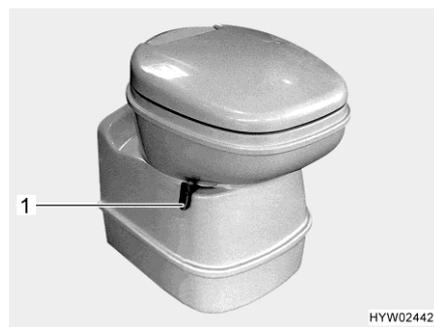
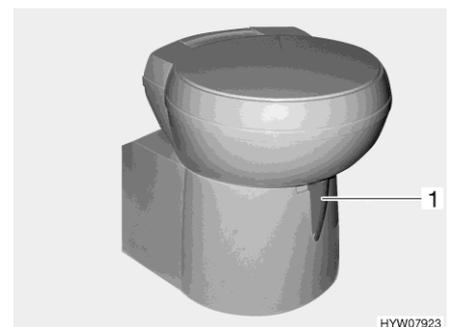

Fig. 295 Thetford toilet bowl, swiveling
Fig. 296 Thetford toilet bowl, swiveling (alternative)
- Before flushing open the sliding trap of the Thetford toilet. To do this, push the slide lever (Fig. 295,1 or Fig. 296,1) in an anticlockwise direction.